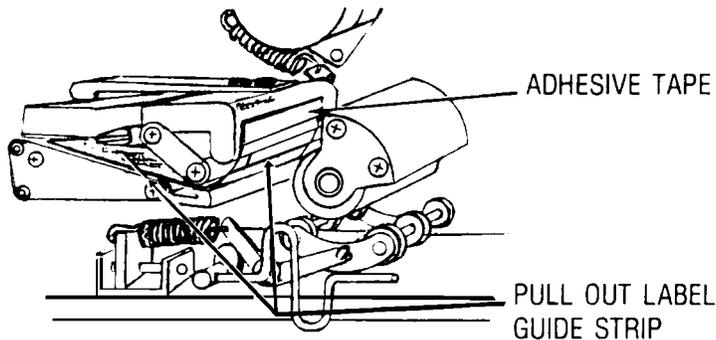

FIGURE 5
d. Label Guide Strip (figure 5)